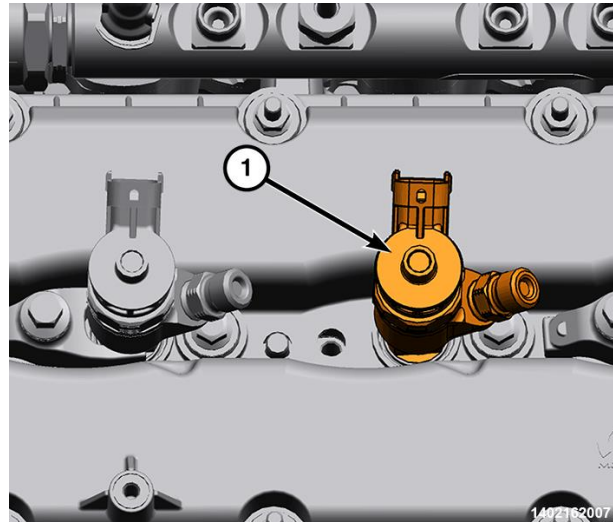

Figure 43 – Fuel Injector Install
54. Install the fuel injector (1) in the cylinder head (Figure 43).